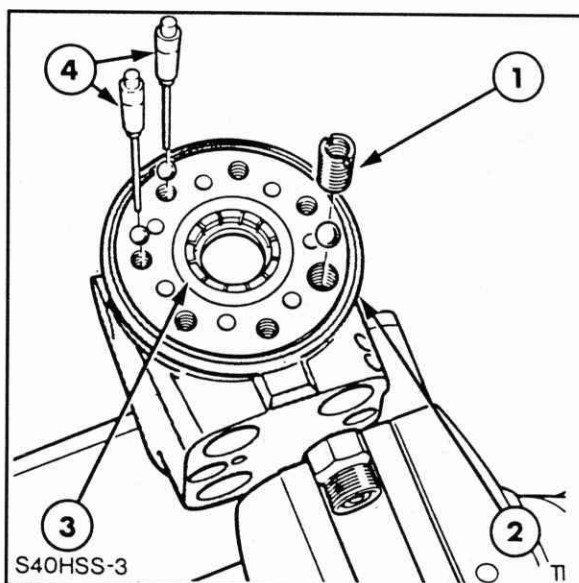

Figure 7-27
6. Unscrew the check valve threaded bushing, Figure 7-27, and shake out the check valve ball and suction valve assemblies.